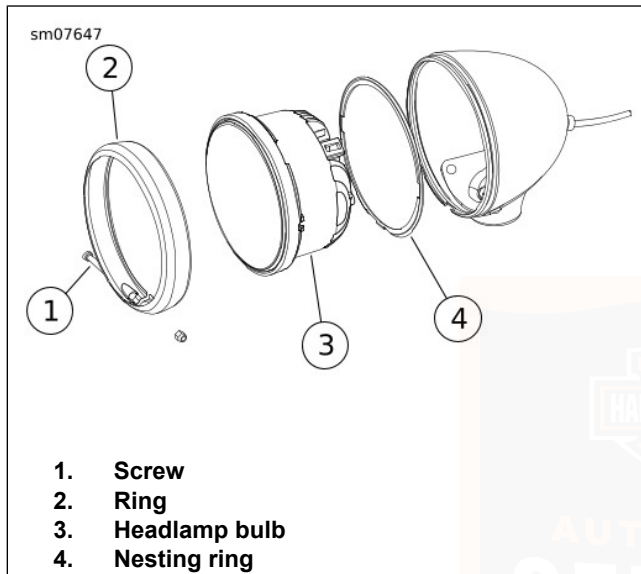

Figure 79. Headlamp Assembly
1. See Figure 79. Remove screw (1). Remove trim ring (2) from lamp housing.
1. See Figure 79. Place nesting ring (4) on back of **new** bulb (3) with the index tab facing away from bulb.